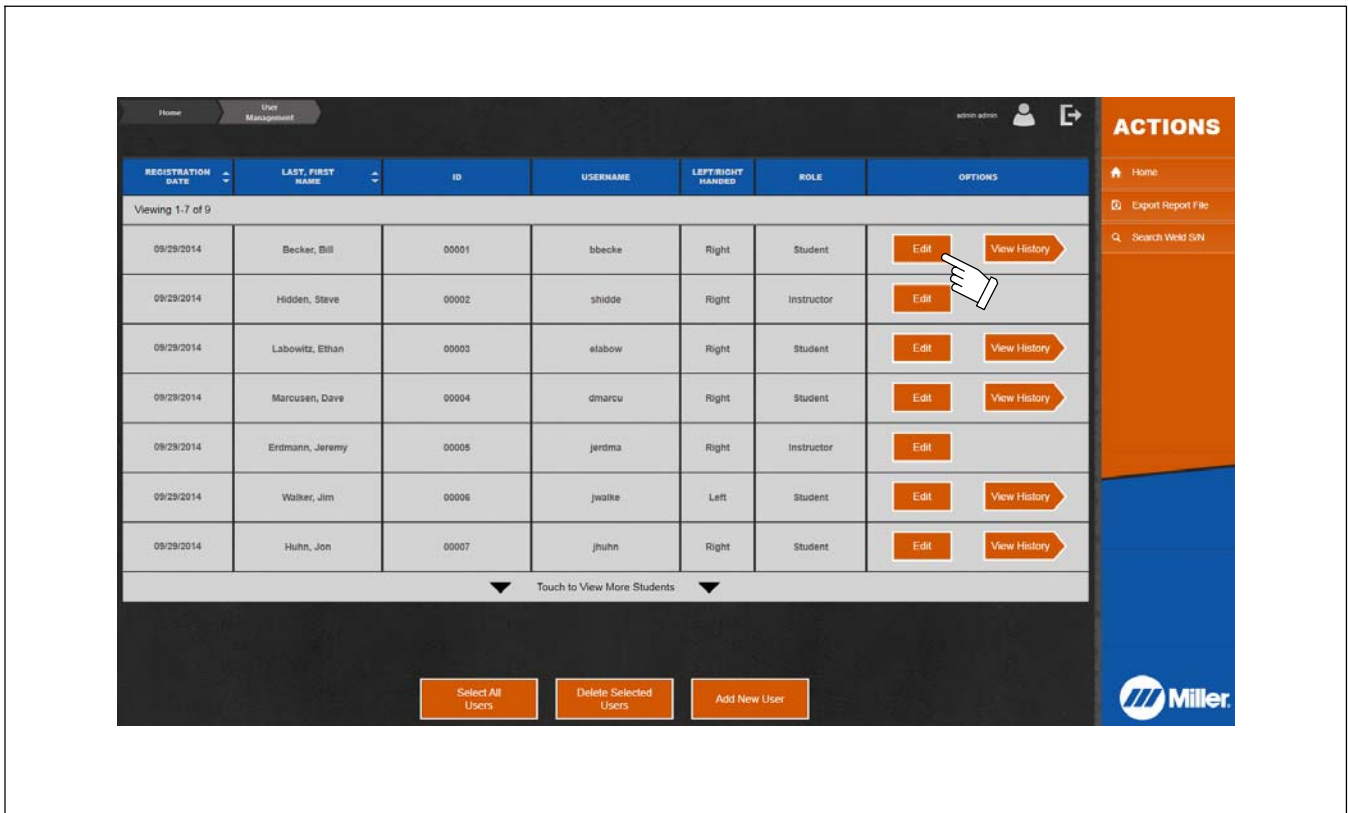

Figure 10-4. Editing User Information
1. To edit user information, touch *Edit* on row corresponding to specific user (Figure 10-4). To delete users, select users to delete (in first column) and then touch *Delete Selected Users*. When a new instructor (user) is created the *Admin,Admin* user may be deleted.